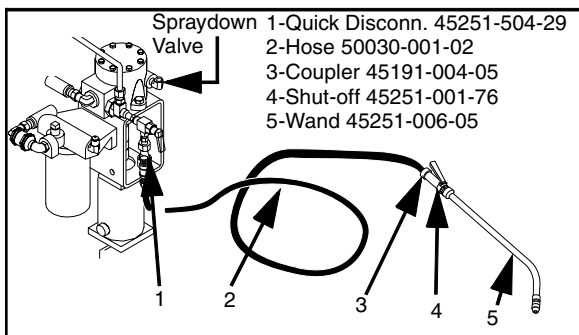

Figure 62. Spray down fuel pump
- 2) Open spray down valve. (Figure 62)